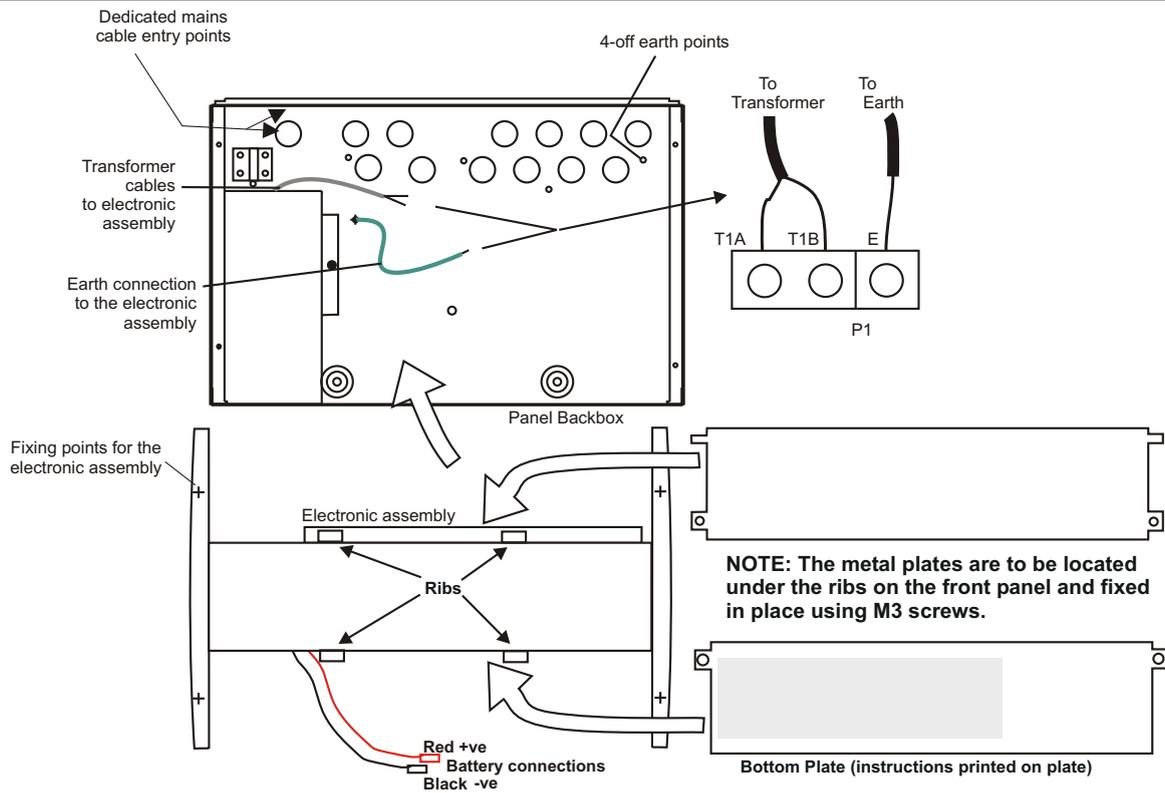

Figure 10 Refitting electronic assembly
- i) Refit the front panel (including the electronic assembly) into the panel using four M3 screws and connect the transformer cable and earth cable, see *Figure 10*.